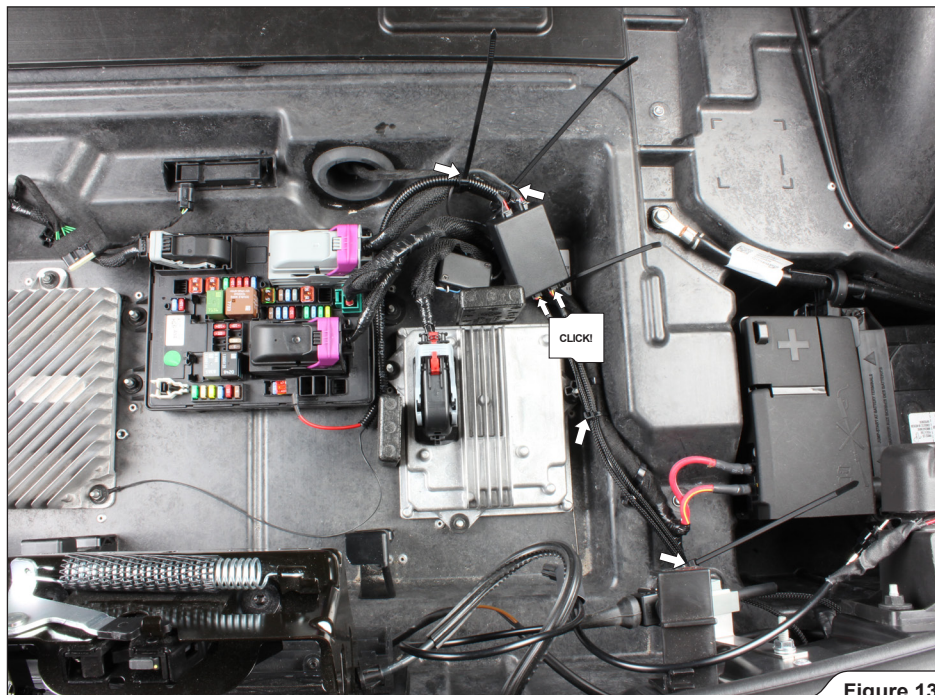

Figure 13
11. Connect the servo harnesses to the Control Kit unit, secure the Control Kit's components and wiring harness (using tie wraps from Akrapović installation kit), as shown (**Figure 13**).